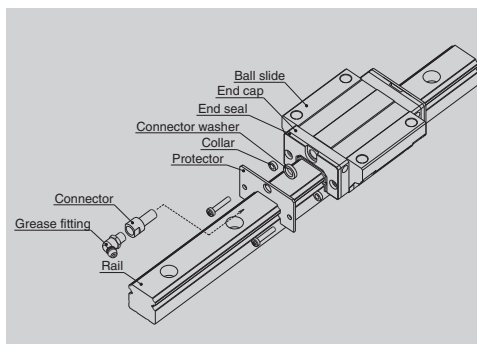

Fig. 6.3 Protector
- When attaching a grease fitting to the end cap after the protector is equipped, you require a connector shown in Figure 6.3. Please specify the connector set when ordering linear guides.